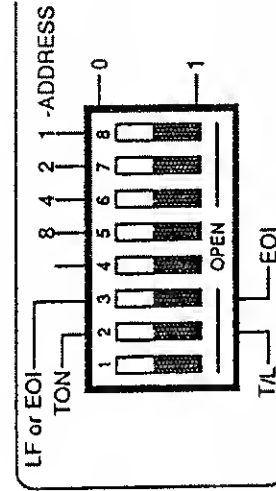

Fig. 4-5. Back-Panel DIP Switches.
T3	Talker only (GPIB address switch is set to TON (see Figure 4-5)) No listener capability and no serial poll capability
**MLA (My Listen Address):** The listen/talk address is set via the back-panel DIP switches (see Figure 4-5). When MLA is received, the listen function enters the listener addressed state. In this state, the instrument can accept commands from the GPIB.
The OF235 responds to either EOI or LF according to the position of the internal jumper (see Figure 4-5).
The controls on the back panel are for configuring the instrument to a particular GPIB environment. The controls are a series of DIP switches (see Figure 4-5) which set the instrument's GPIB address, the message unit delimiter, and the talker-only function.